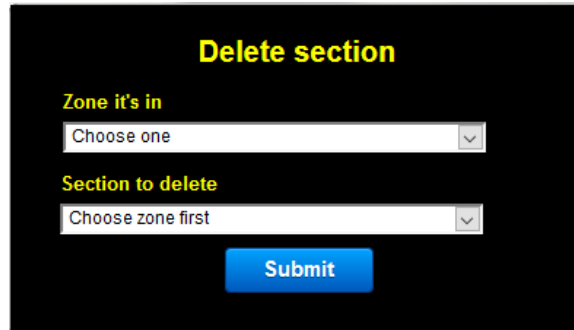

Fig. 20
1. This form allows you to delete a Section.(See fig. 20) If a Section is no longer needed in the logbook you can delete it from your location.